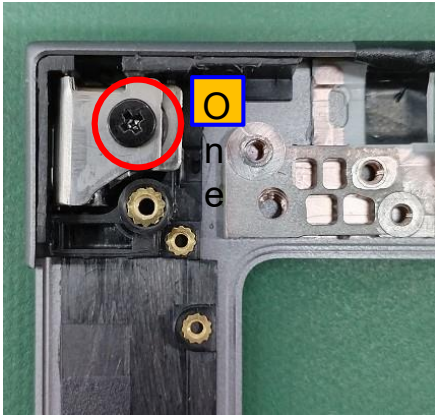

Figure 1
1. Loosen an M2*L4 screw (6052B0081901) and remove the K -Lock metal piece (6053B2313701) (Figure 1).